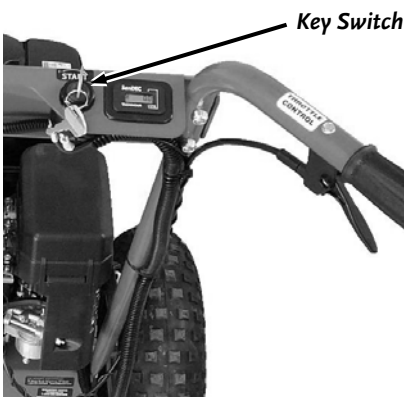

Figure 30
3. Hold down the Operator Presence Lever and turn the Key Switch fully to the “Start” position until the engine starts (**Figure 30**). The Key will move back to the center position when released.